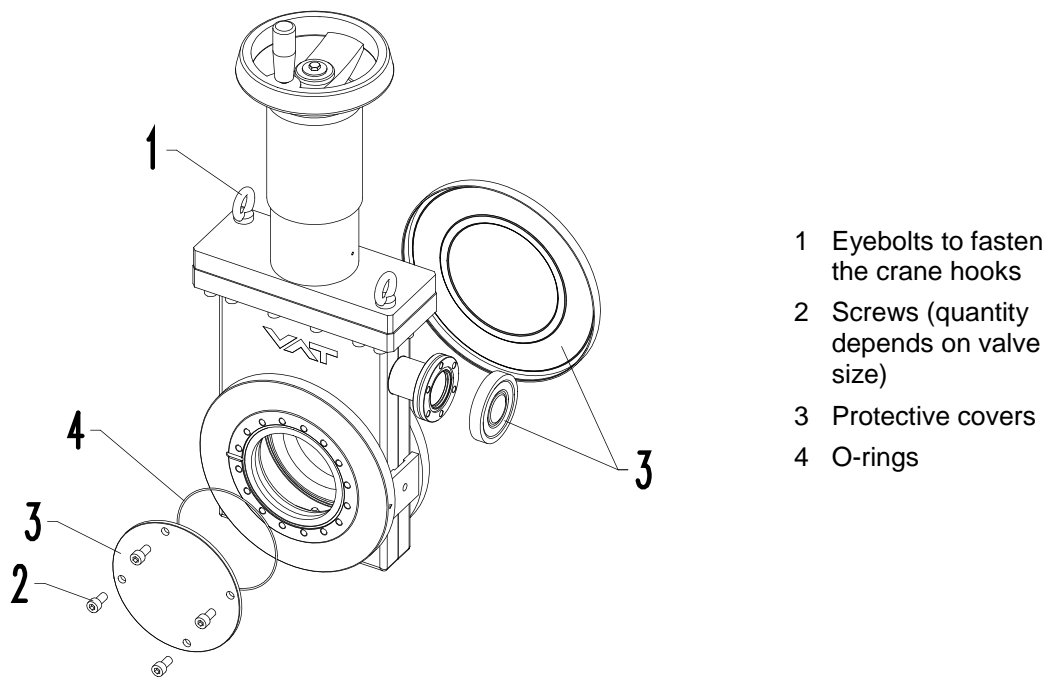

Figure 4-2
2. Remove screws (2) and protective covers (3); see «Figure 4-2».
3. Remove O-rings (4).